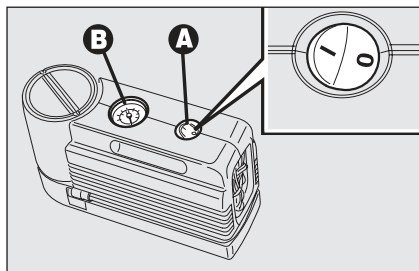
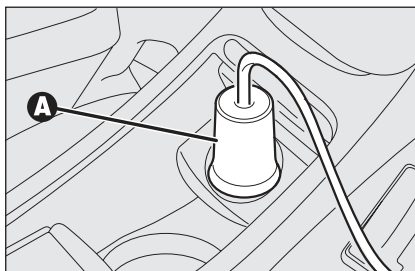

fig. 19
fig. 20
- ☐ make sure the compressor switch **A-fig. 19** is set to **0** (off), start the engine and fit plug **A-fig. 20** into the outlet/cigar lighter on the front console and then turn on the compressor by setting switch **A-fig. 19** to **I** (on);
- ☐ Inflate the tyre to the pressure specified in paragraph "Wheels" in section "Technical Specifications". Check tyre pressure on gauge **B-fig. 19** with compressor off to obtain precise reading;